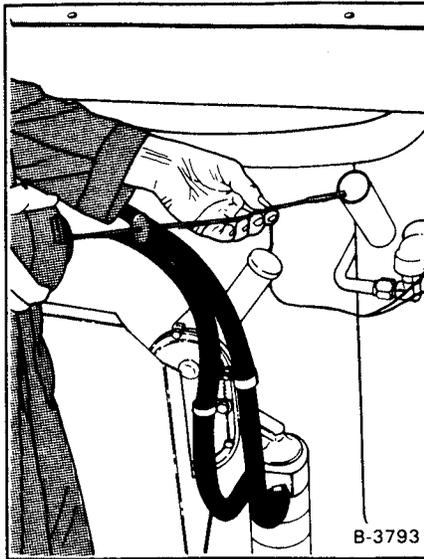
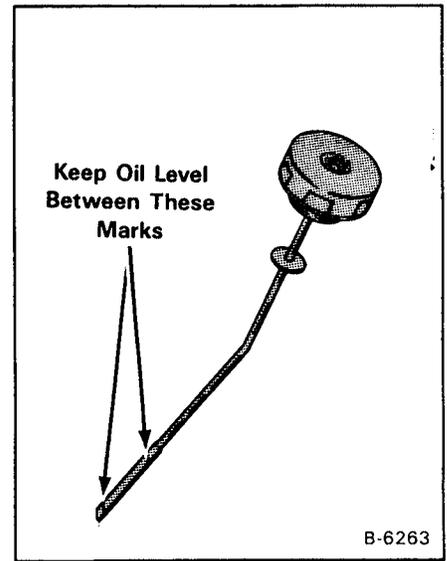

Fig. 1-30 Checking/Adding Fluid
Fig. 1-31 Fluid Dipstick
(2) Remove the dipstick (Fig. 1-30, Item 1). The fluid level must be between the top and bottom marks on the dipstick (Fig. 1-31).
(3) Add fluid until the level is at the top mark on the dipstick.